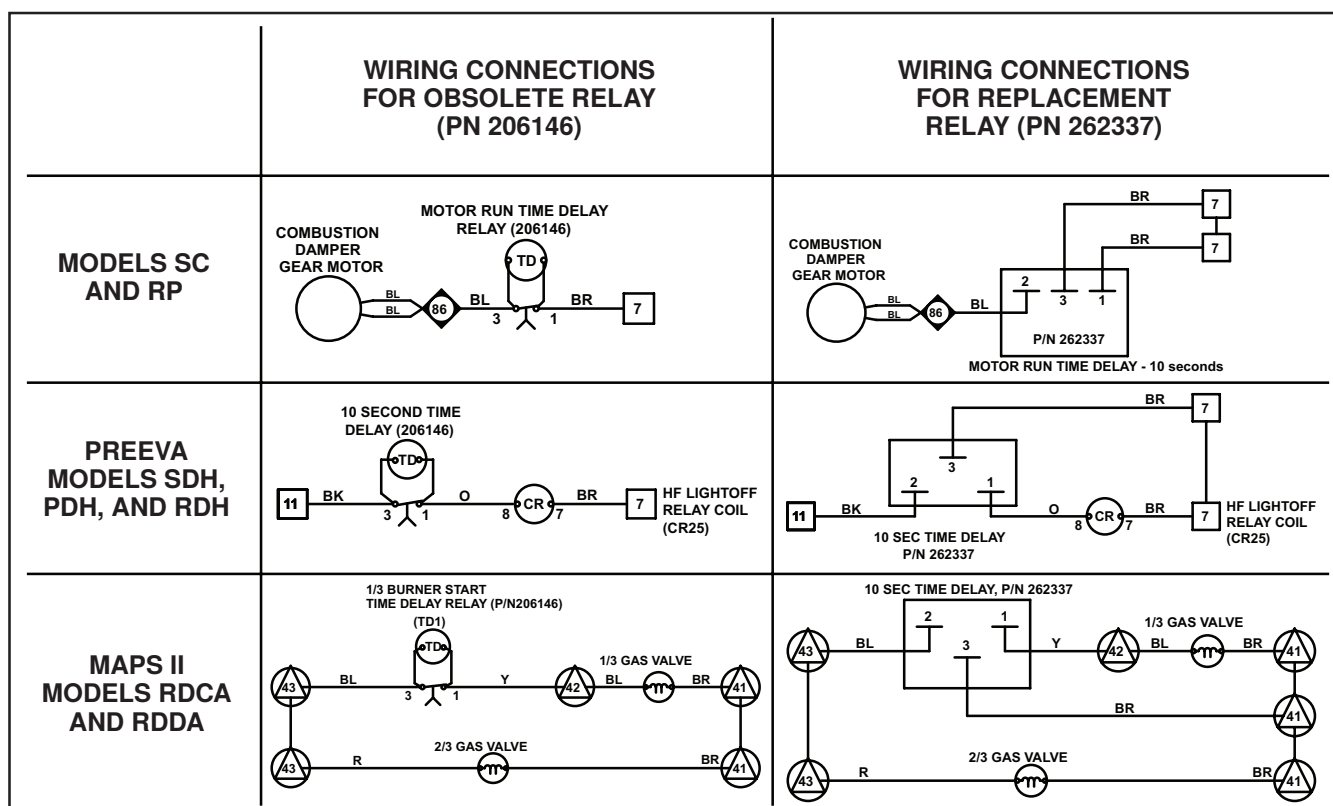

Figure 19. Wiring Connections for Replacement Relay 262337
- b. For replacement kit 262375, connect brown wire assembly from terminal 3 of replacement time delay relay to terminal on unit as shown in Figure 19.